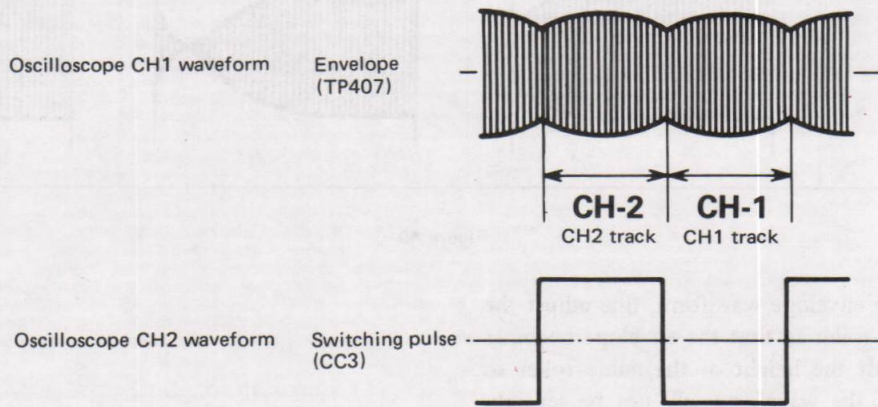

Figure 38
- ① Keep the guide roller setting screw slightly tightened so that it turns smoothly with the guide roller adjustment flat-bladed screwdriver.
- ② Trigger the envelope with the switching pulse to observe the envelope waveform on the oscilloscope, as shown in Fig. 38 below.
- ③ Perform height adjustment of the guide roller while observing the envelope waveform through TP407, then correctly align the tape with the lead portion of the head drum.